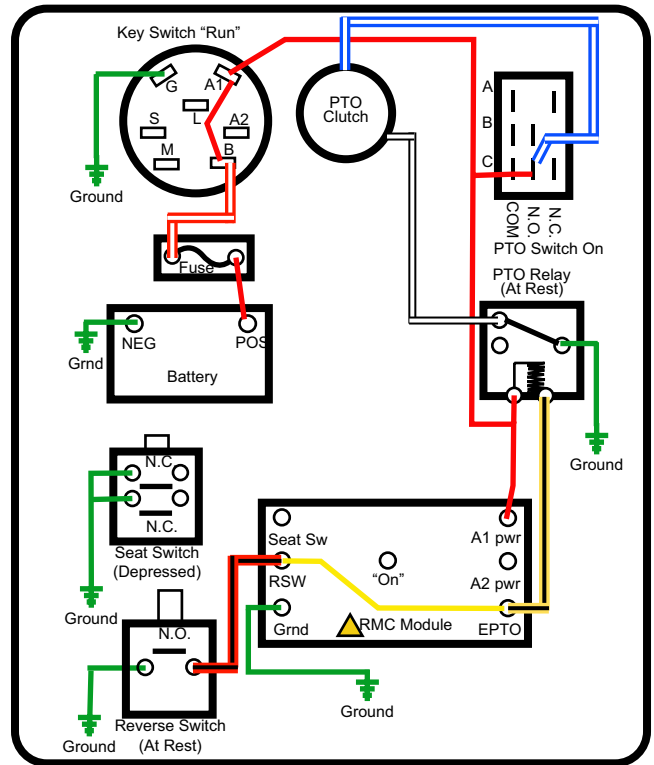

Figure 7.33
Basic Operation: See Figure 7.33.
1. The PTO clutch loses its ground when the PTO relay is energized. See Figure 7.33.